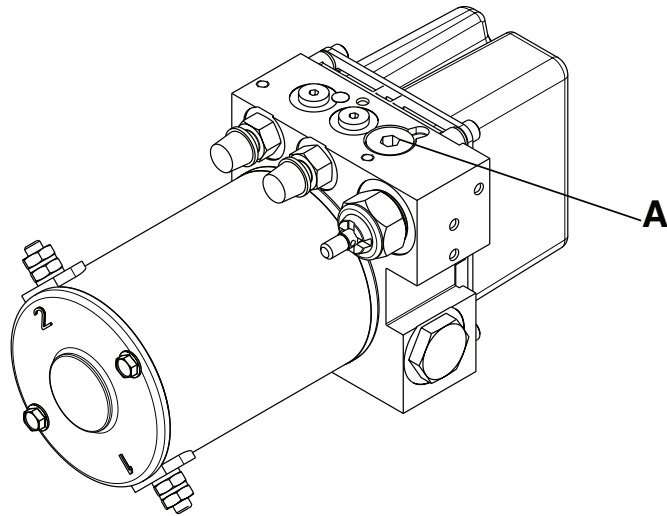

Figure 44 – Hex plug location
4. Using a 1/4" hex wrench, remove the hex plug (A) from the top of the hydraulic manifold assembly (Figure 44).